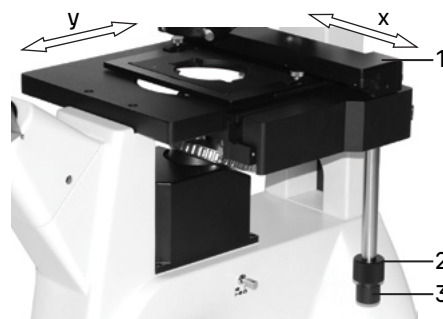

Fig. 16. Moving the specimen
The microscope is equipped with a stage attachment **1** that enables movement of the specimen in longitudinal (Y) and lateral (X) directions. The object is moved by Y-axis **2** and X-axis **3** coaxial knobs, as shown in Fig. 16.